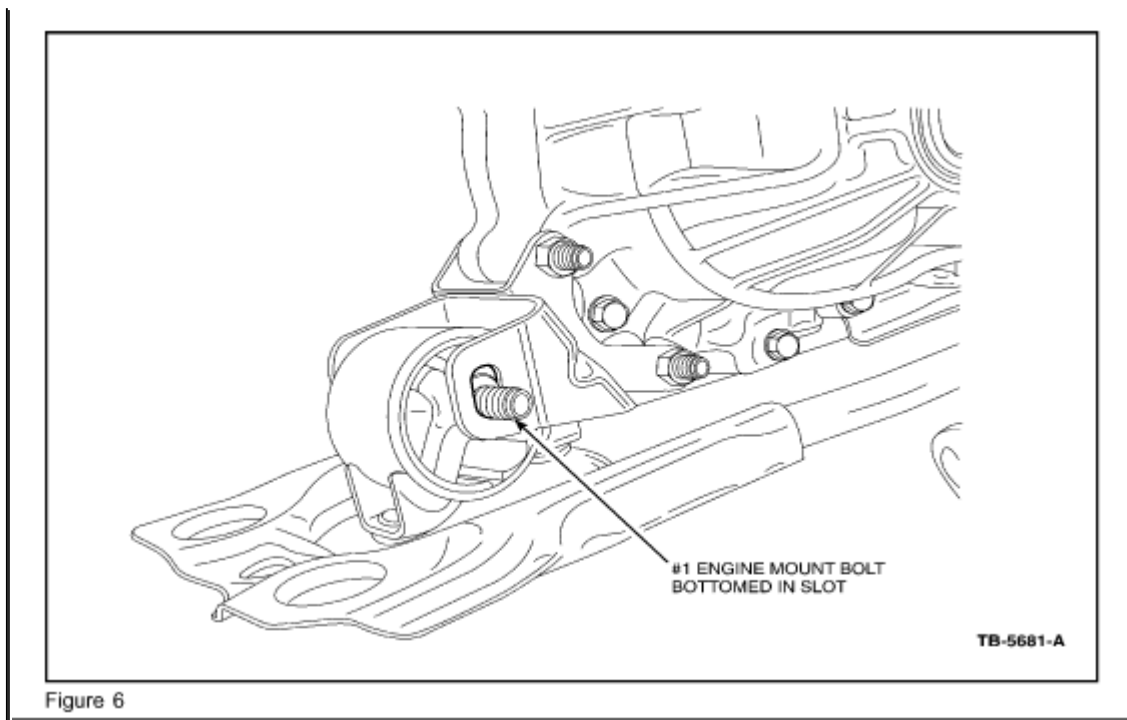

Figure 6
28. Torque the # 1 (rear) Engine Mount center bolt to 67-93 N.m (50-68 lb-ft.). Be sure the bolt is positioned to the bottom of the slot (for automatic transmission vehicles only) using a pry bar, then torque to specs (Figure 6). The bolt must not be cocked.